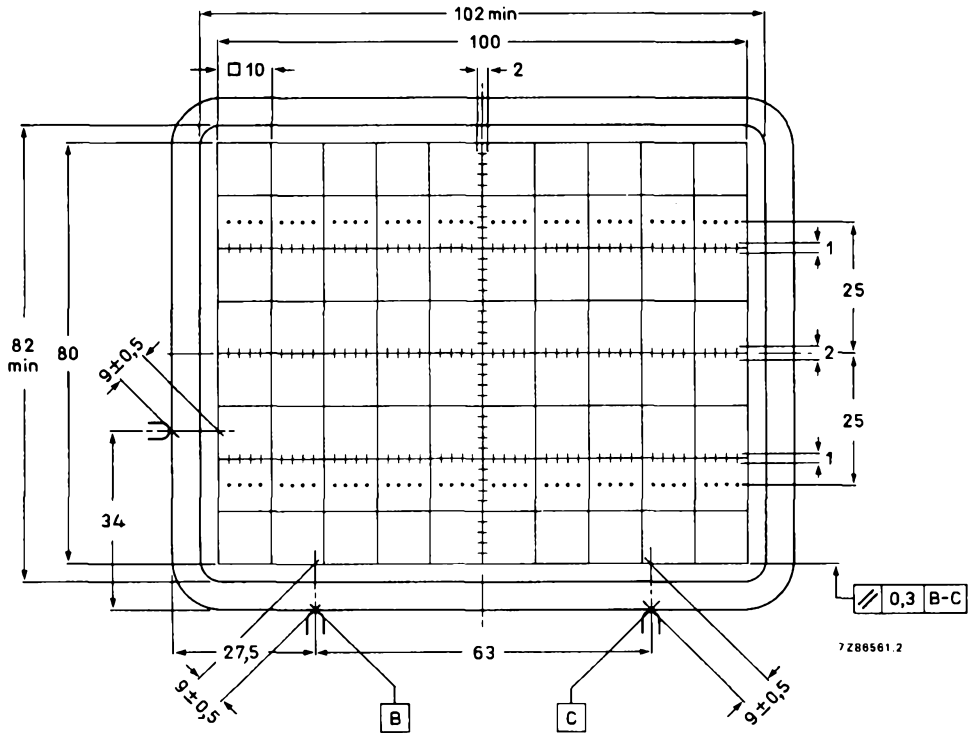

Fig. 4 Front view of tube with internal graticule, type 93. The faceplate reference points are used for aligning the graticule with the faceplate.
4. Reference points on faceplate for graticule alignment (see Fig. 4).